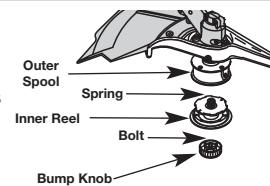

Fig. 27
1. Hold the outer spool with one hand and unscrew the Bump Knob clockwise (Fig. 27). Inspect the bolt inside the bump knob to make sure it moves freely. Replace the bump knob if damaged.
2. Remove the inner reel from the outer spool (Fig. 27).
- Hold the outer spool with one hand and unscrew the bump knob clockwise (Fig. 27). Inspect the bolt inside the bump knob to make sure it moves freely. Replace the bump knob if damaged.
- Remove the old inner reel from the outer spool (Fig. 27).
- Remove the spring from the old inner reel (Fig. 27).